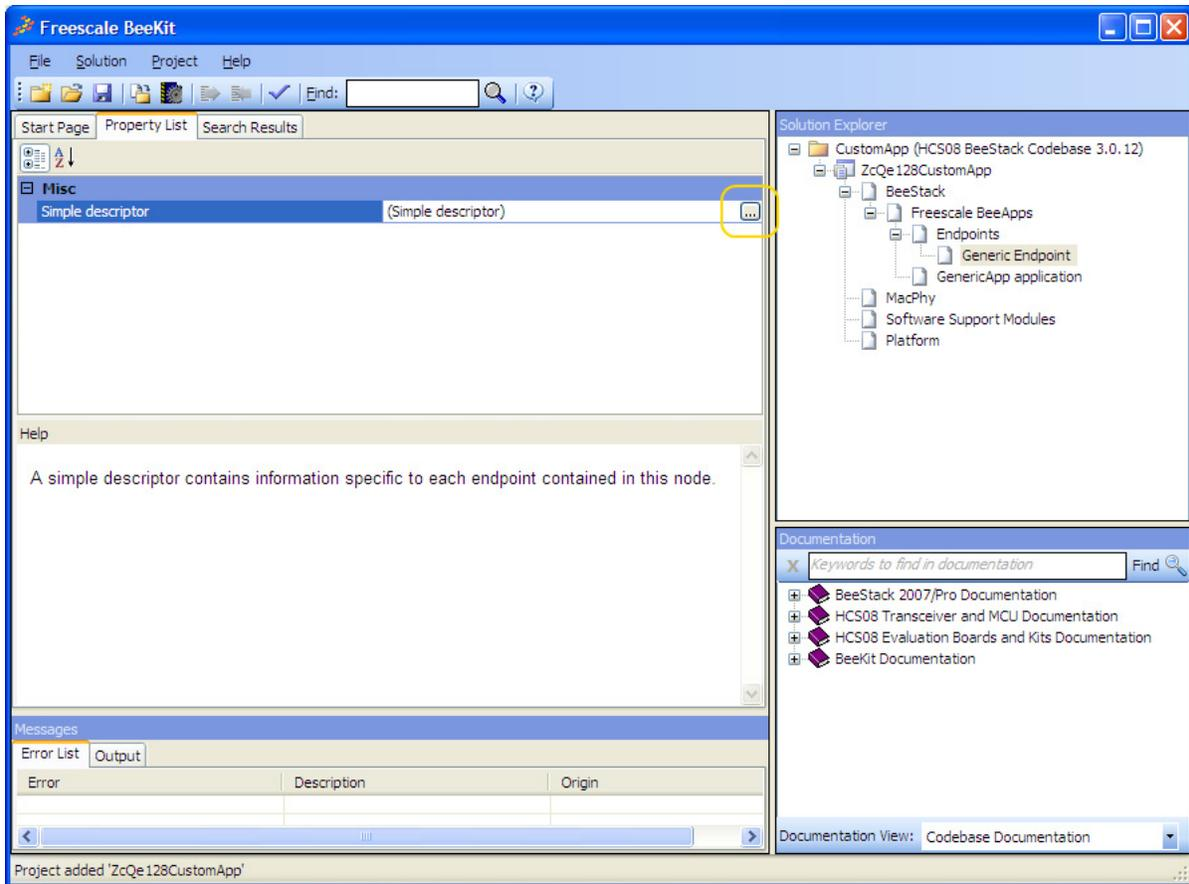

Figure 2-1. Modifying Endpoints in BeeKit
3. To edit the endpoint, click on the button in the BeeKit window as circled in Figure 2-1. This button will only be available if the “Generic Endpoint” is selected in the Solution Explorer window.